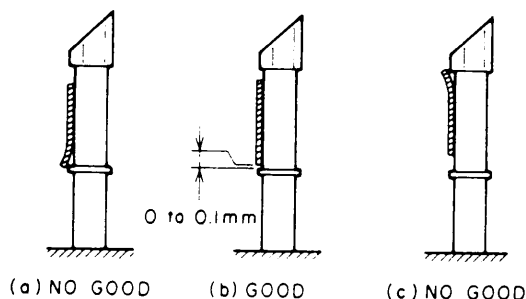

Fig. 6-7
- 1) Turn the NUT (a) for coarse A/C HEAD BLOCK height adjustment as in Fig. 6-7, 8.
- 3) Depress the REV button (REVIEW mode) confirm the curl at the tape down edge is not existed at the TAPE GUIDE as shown in Fig. 6-7.